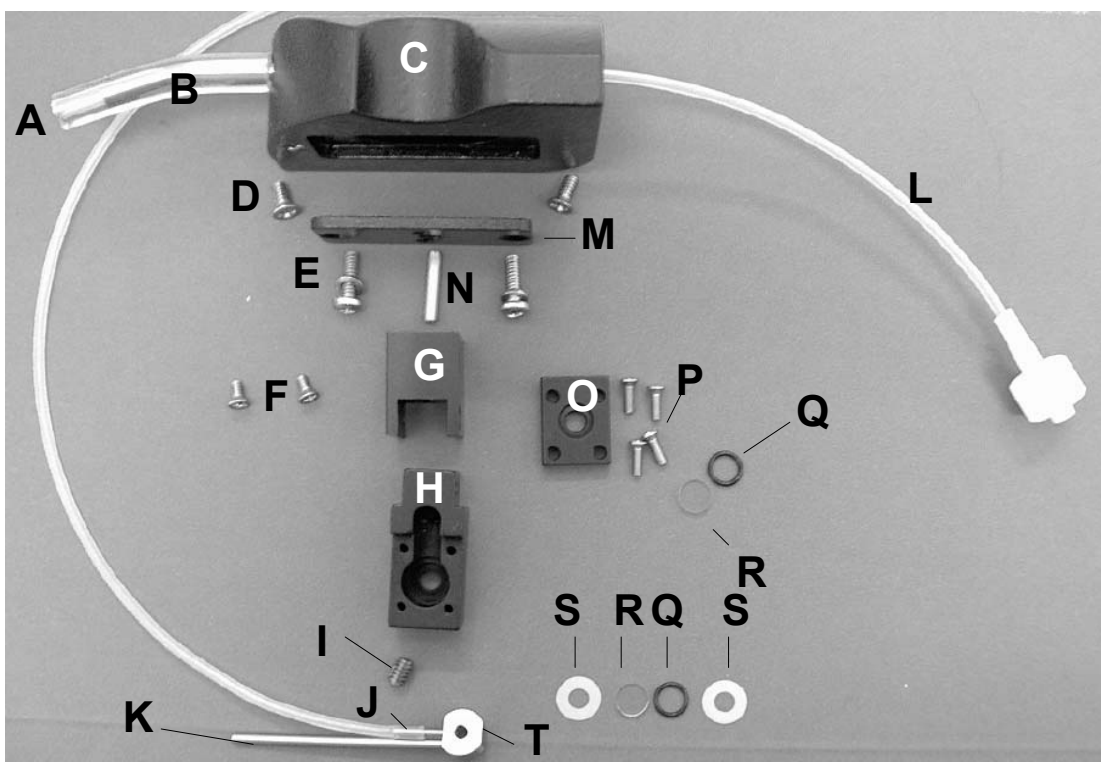

Figure 4 - Flowcell Tubing Replacement
Reference Figure 4 as you read the following instructions:
- Refer to Figure 4 for the proper orientation.